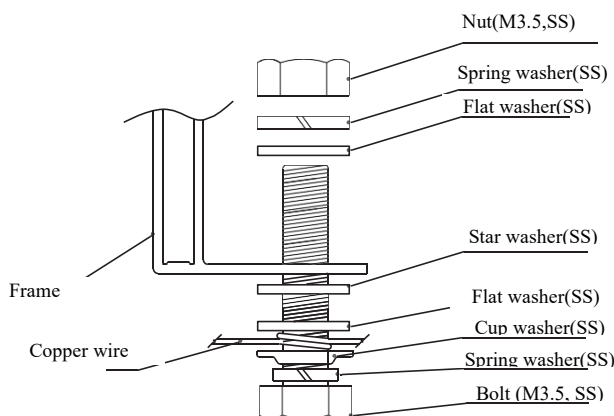

Figure 7
- The grounding bolts must be made of stainless steel and be used in the specified grounding holes. First, make the M3.5 stainless steel bolt pass through the spring washer, cup washer (copper conductor with a diameter of 2.1 mm), flat washer, and star washer, and then insert through the grounding hole, flat washer and spring washer on the frame. Finally, tighten with a M3.5 nut. Caution: The upper limited temperature of the conductor is 85°C. As for the installation, refer to Figure 7.